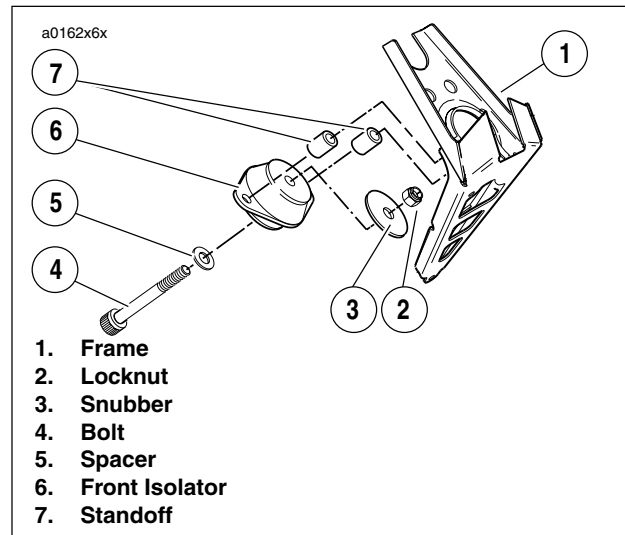

Figure 3-41. Front Isolator Mount
27. See Figure 3-41. Install front isolator mounting bolt, spacer snubber and **new** nut.